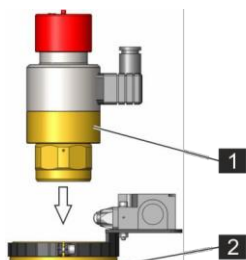

Fig. 7: Installation of release device
4. Install release device (Fig. 7/1) on the valve (Fig. 7/2).